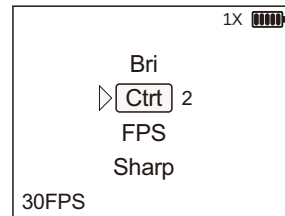

Fig 10
b. Contrast: From the IMG menu, press the **▽** button to enter the Ctrl (Contrast) function. Click the **OK** button to adjust Ctrl. There are 1 to 5 settings of Ctrl. Press the **△** and **▽** buttons to adjust Ctrl. After selecting your contrast (Ctrl) setting, press and hold the **OK** button to return to the previous menu. (See Figure 10)